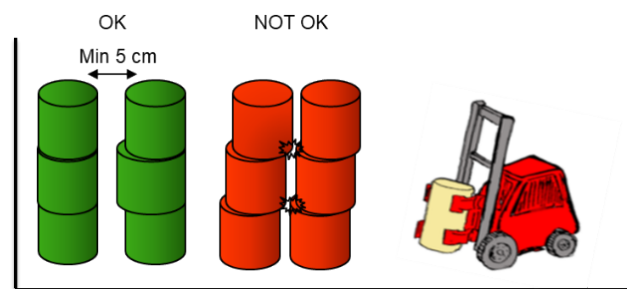

Figure 1, even stacks, no overlapping
- Even stacks, with a min of 5 cm between the stacks. Overlapping of reels causing high risk of edge damages. See figure 1.